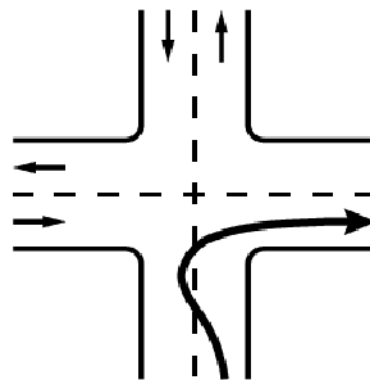

Figure 1-5: Don't Do This
- Don't turn wide to the left as you start the turn. A following driver may think you are turning left and try to pass you on the right. You may crash into the other vehicle as you complete your turn. See Figure 1-5.